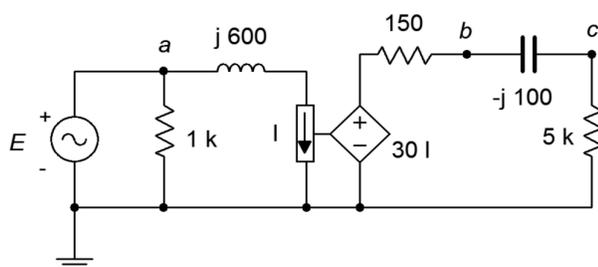

Figure 5.17
33. Determine the current through the 5 kΩ resistor in the circuit of Figure 5.17 if  $E = 10\angle 0^\circ$ .
34. Determine  $v_c$  in the circuit of Figure 5.17 if the source  $E = 3\angle 120^\circ$ .